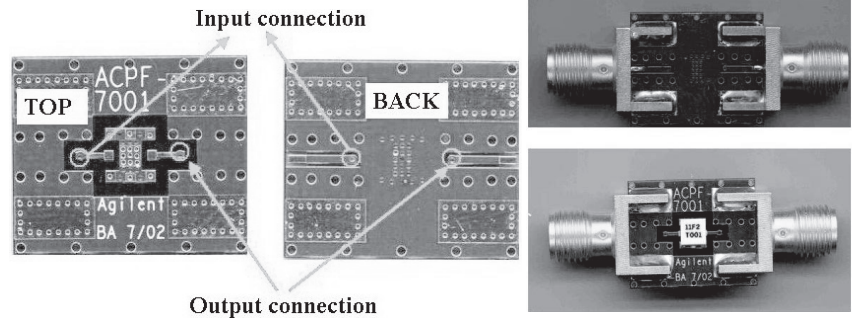

Figure 6. PCB top and bottom views (vias used to connect the underside of the board to the filter mounting pads on top).
- Pins 1, 2, 3, 5, 6, 7, 9 are grounded. (Figure 6)
- Demo board uses 10 mil top, 18 mil bottom Greek Coplanar Waveguide Over Ground plane (CPWG) style board. (See board layer Figure 6, 7)
SMA connectorized Demo boards are available for sampling. (See board drawing in Figure 6).